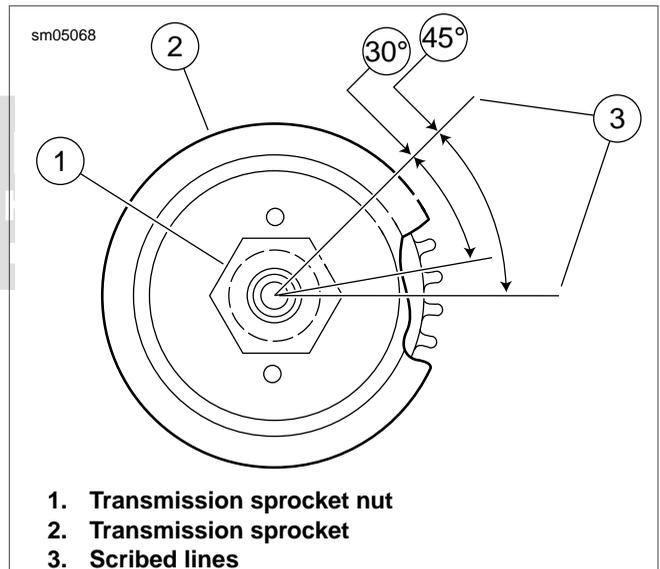

Figure 6-43. Transmission Sprocket Nut Final Tightening
8. See Figure 6-43. Scribe a line (3) on the transmission sprocket nut (1). Continue the line on the transmission sprocket (2) as shown.